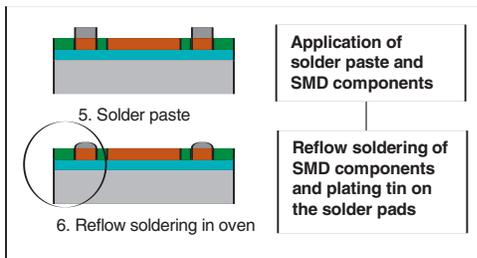

Figure 8. Steps 5 & 6, Solder Pad Preparation and SMD Component Mounting.
This is a "board stuffer" who adds additional SMD components (such as resistors or connectors) to the MCPCB and prepares the LUXEON Emitter solder pads for a hot bar soldering process (see figure 8). The finished product is a MCPCB with solder wetted pads and mounted SMD components (resistors etc.) as required by system design.
- Solder pad preparation and SMD component mounting (see figures 8 and 8a)
Steps 5 and 6: Solder pad preparation and SMD component mounting (see figures 8 and 8a)